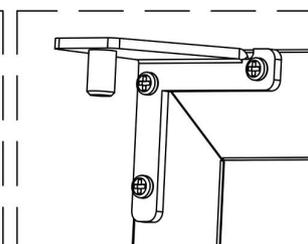

Fig.5
8. Install the top left hinge. (Fig.5)